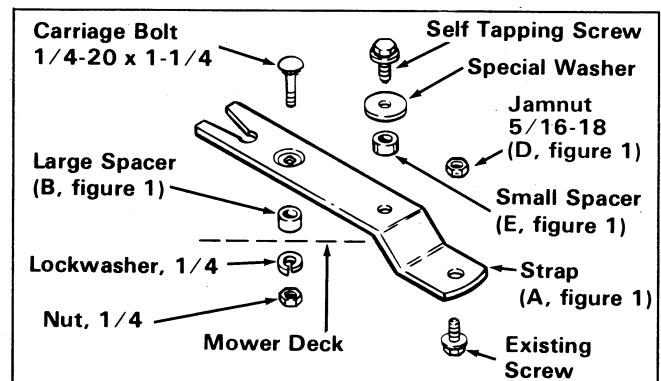

Figure 3.
- c. Check the installation. The strap should be secured to arbor screw with locknut (D, figure 1). The small spacer (E) should be above the strap. The large spacer (B) should be between strap and mower deck. Refer also to figure 3.